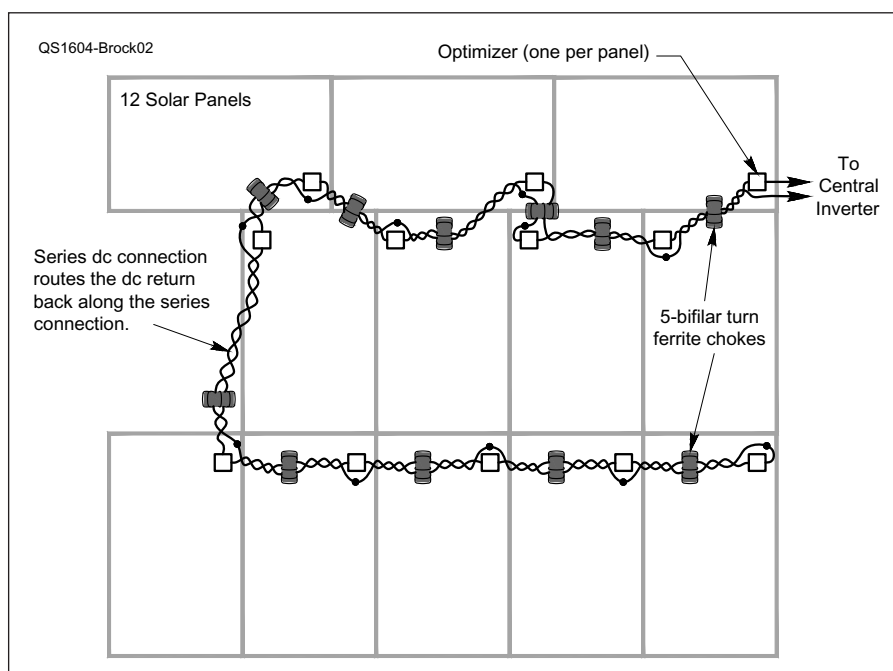

Figure 2 — New wiring configuration shows a closed loop of a twisted pair of conductors, and ferrite beads to suppress common mode currents.
To suppress common mode noise, I added a Fair-Rite 2631803802 ferrite bead to the transmission line between each optimizer. The bead is large enough to pass the MC4 connectors through to wind five bifilar turns. Optimizers are now connected to a long transmission line. In order to maintain balance in the dc transmission line, the optimizers are alternately connected in either side of the transmission line, as shown in Figure 2. This configura-
**Figure 6** — The chokes from Figure 2, as well as the twisted wire transmission cables can be seen between two of the aluminum support rails before solar panels were installed.